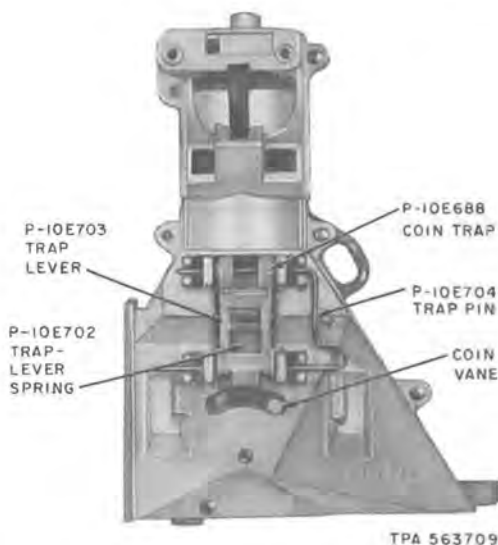

Fig. 28—Trap-Lever Spring and Trap-Lever Assembly
- (1) Remove coin relay from hopper (4.07).
- (2) Move vane to right.
- (3) Remove trap pin (Fig. 28) by sliding vertical portion over boss on front of hopper.
- (4) Turn coin trap sideways and remove through opening.